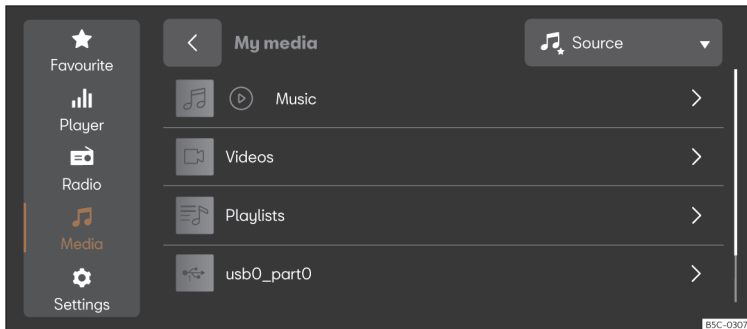

Fig. 157 Schematic representation: Media view
- Press **MENU** > > >>> **Fig. 157**.